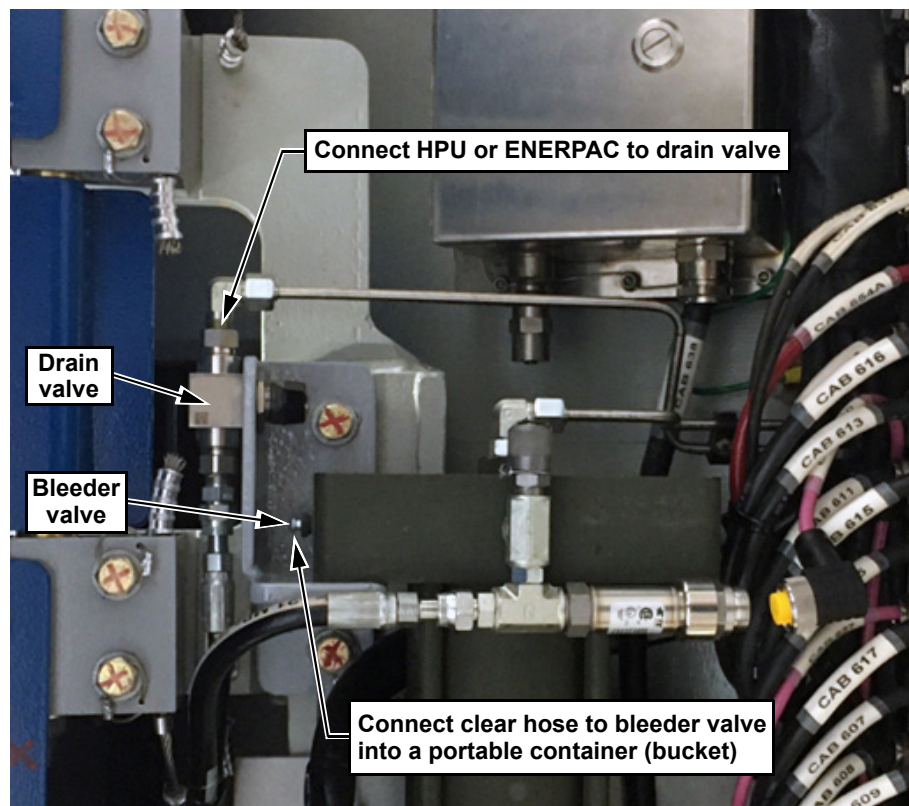
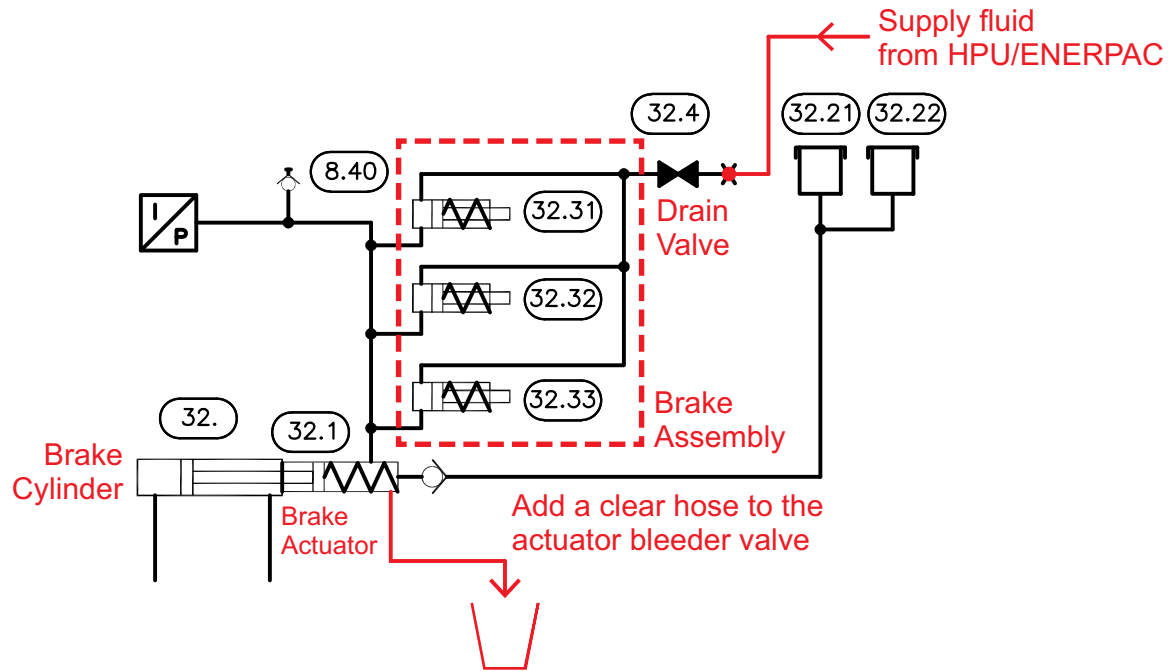

Figure 3: Brake flush and purge (bleed) procedure preparation
Figure 4: Hydraulic schematic
3. Connect the HPU/ENERPAC to the drain valve. See Figure 3 and Figure 4 on page 4.